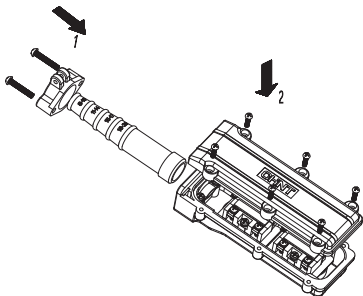

Figure 2 Installation diagram of NP3 pushbutton
Pass the cable through the rubber sealing sleeve and fix the rubber sealing sleeve with end cap (1), then secure the wires onto the terminal of each button one by one according to the electrical drawing; install the bottom cover and tighten the screws (2), as shown in Figure 2.